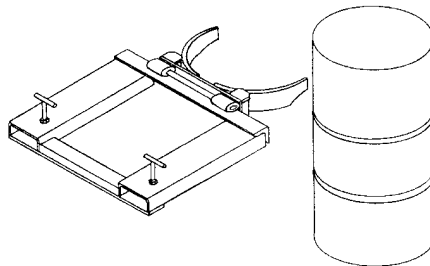

Figure 1
6. Raise unit and approach drum so that the jaws come in contact with the drum just below the upper rolling rib of the drum. (Fig 1)